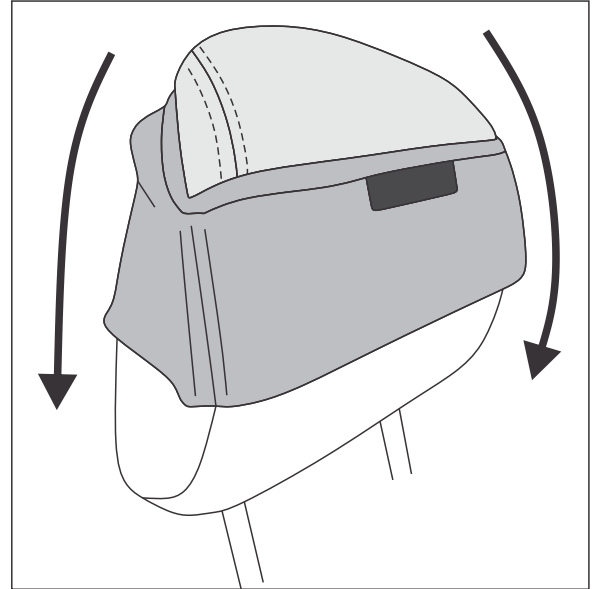

Fig. 10
10. Turn the headrest covers inside out and lay upside down on top of the headrest. Proceed to wrap the headrest cover over the headrest by rolling it down evenly. To make sure the headrest cover is being fitted correctly, ensure the seams are aligned before rolling it down. Once fitted, attach the hook and loop tapes underneath (Fig. 10).